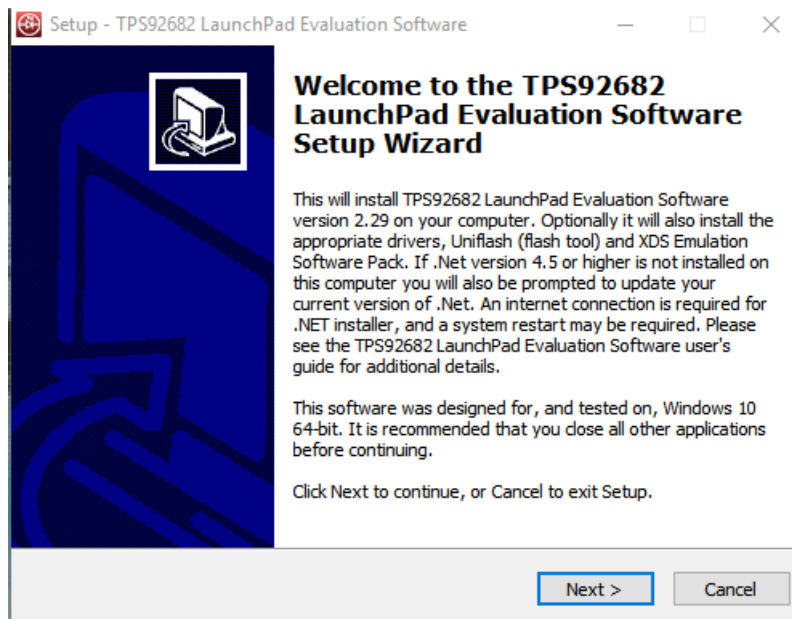

Figure 18. Setup Screen 1
6. After running the *TPS92682 LaunchPad Evaluation Software Installer.exe*, the evaluation software window appears as shown in Figure 18.